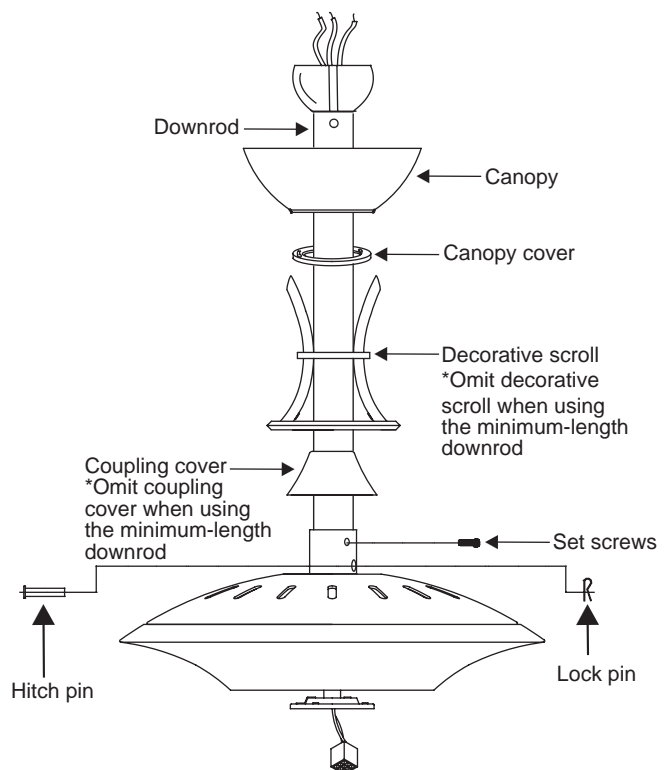

Figure 7
Step 6. Route wires exiting from the top of the fan motor through the coupling cover, decorative scroll, canopy cover, canopy and then through the ball / downrod. (Fig. 7)
Step 7. Align the holes at the bottom of the downrod with the holes in the collar on top of the motor housing (Fig.7). Carefully insert the hitch pin through the holes in the collar and downrod. Be careful not to jam the pin against the wiring inside the downrod. Insert the locking pin through the hole near the end of the hitch pin until it snaps into its locked position, as noted in the circle inset of Fig. 7.
Step 8. Tighten two set screws on top of the fan motor firmly. (Fig. 7)